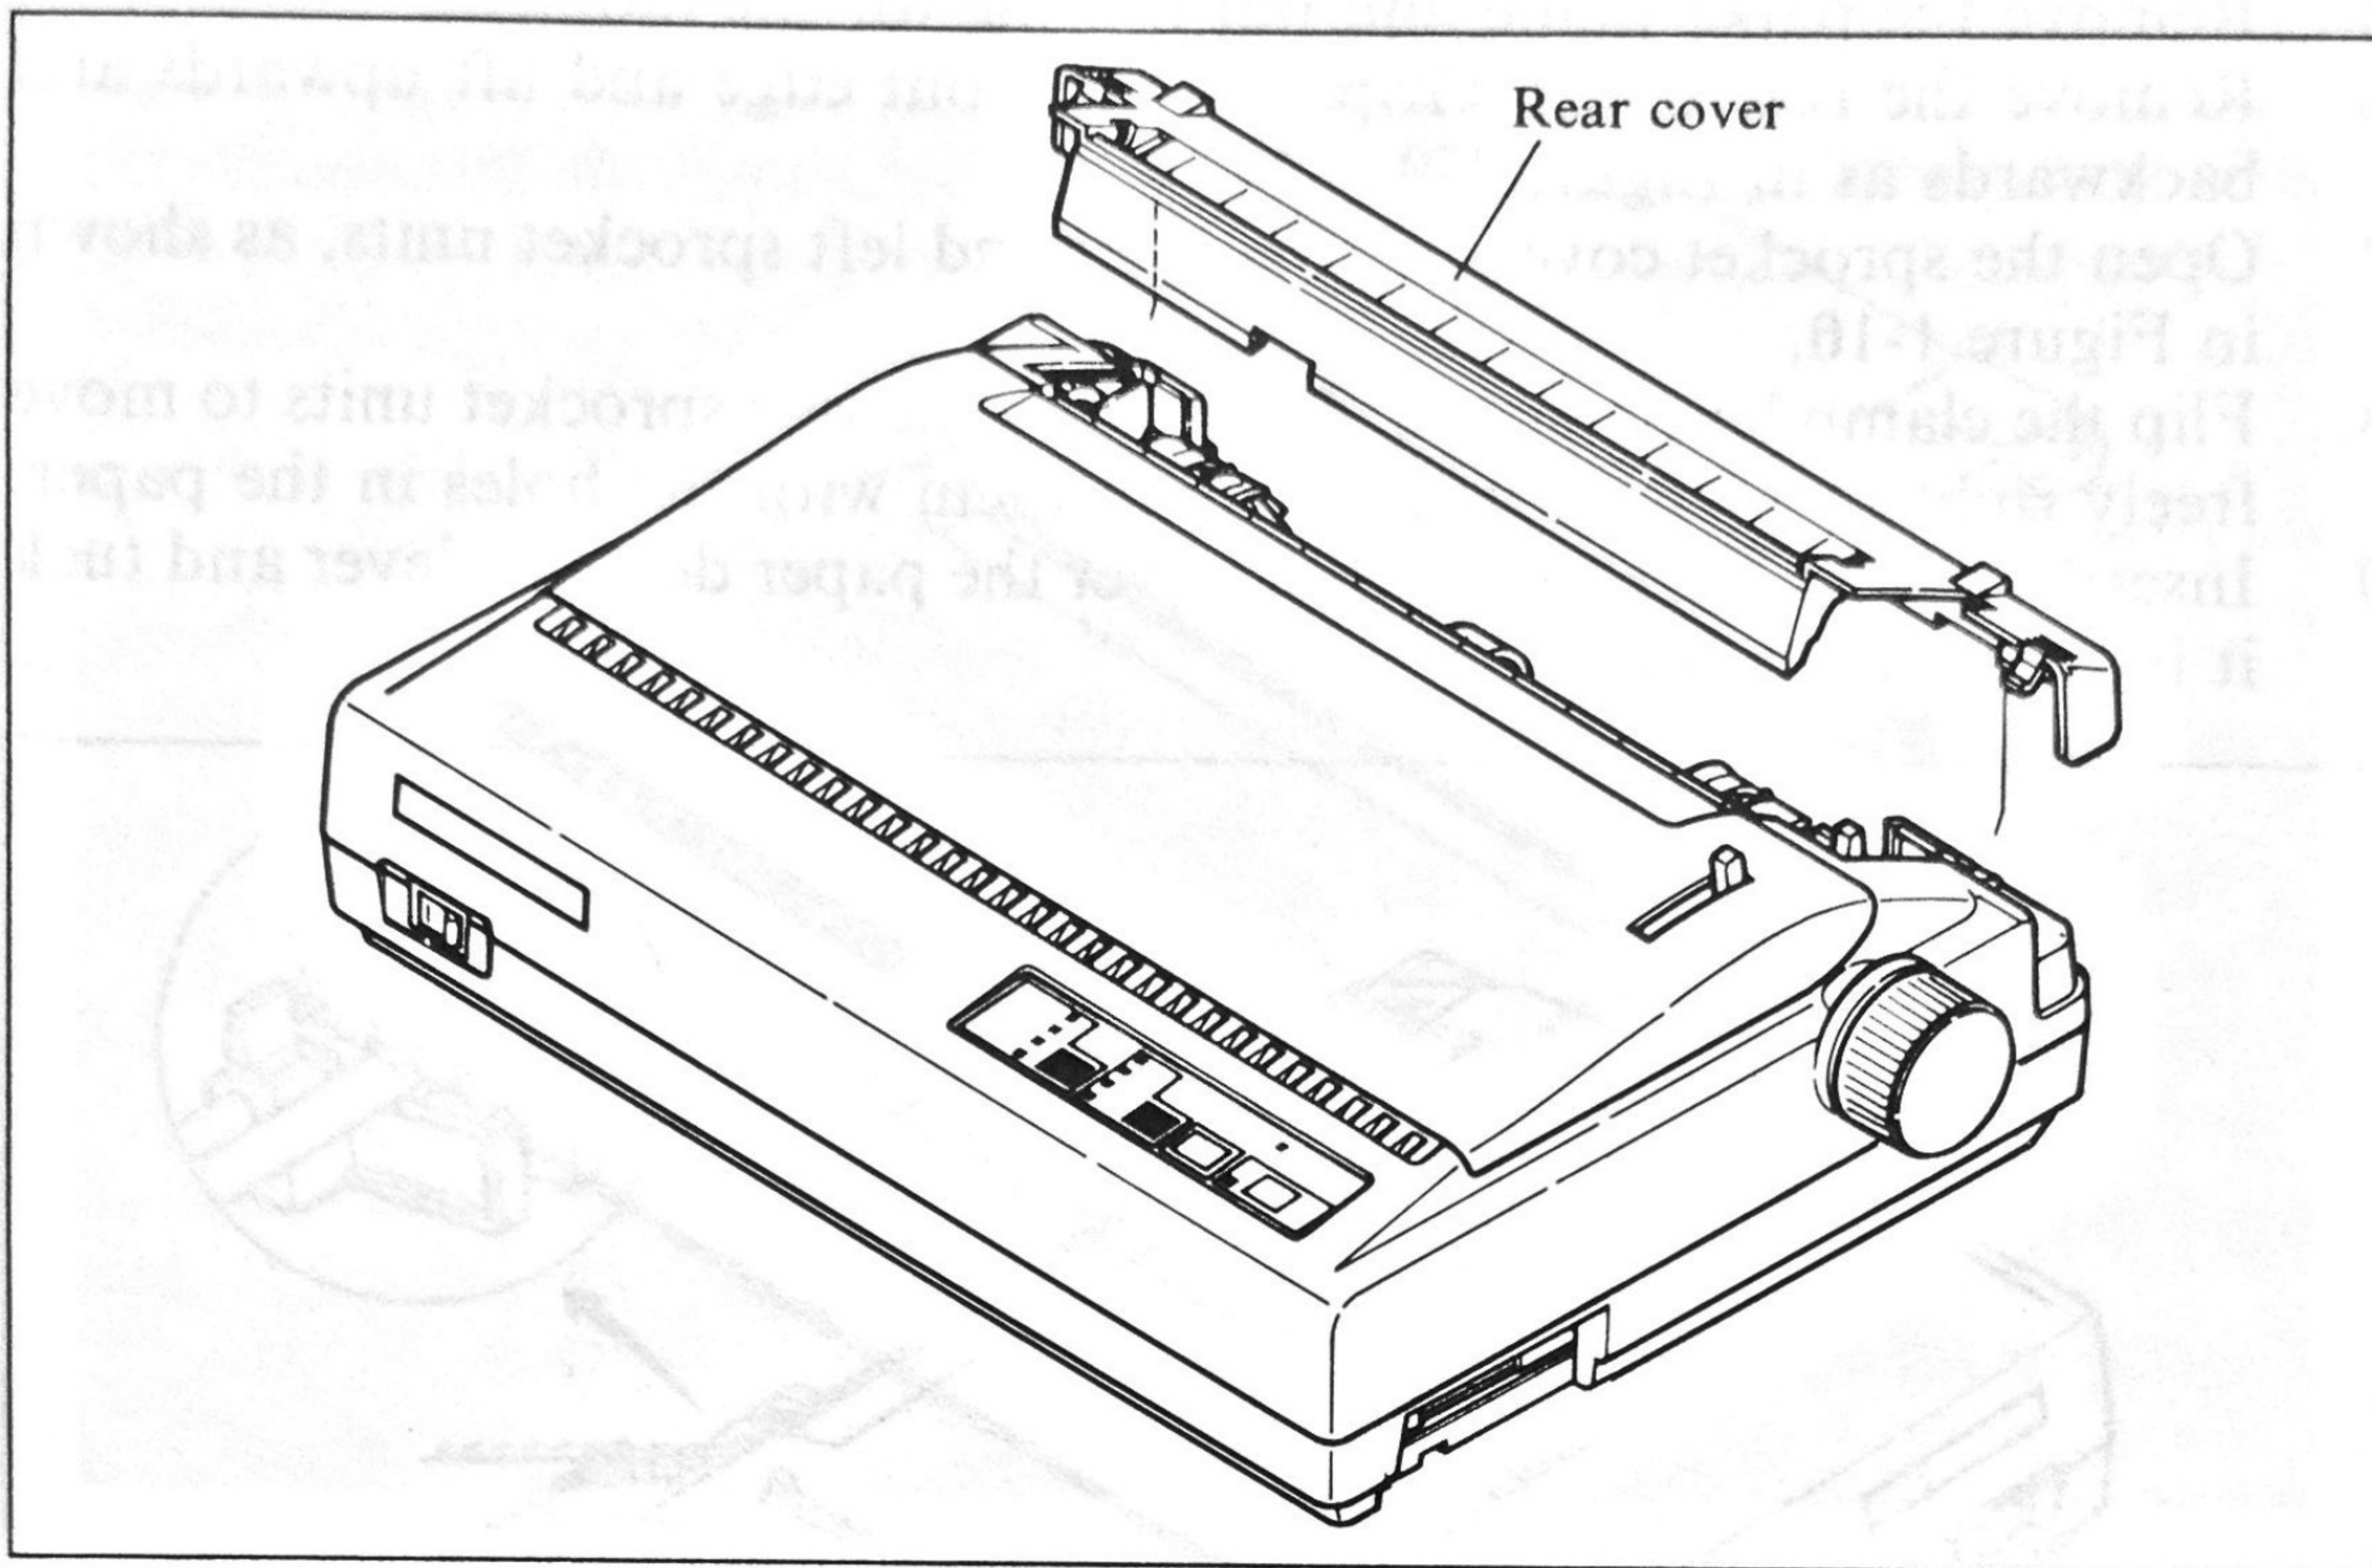

Figure 1-9. Opening the rear cover
6. Remove the rear cover. Grip it by its front edge and lift upwards and backwards as in Figure 1-9.